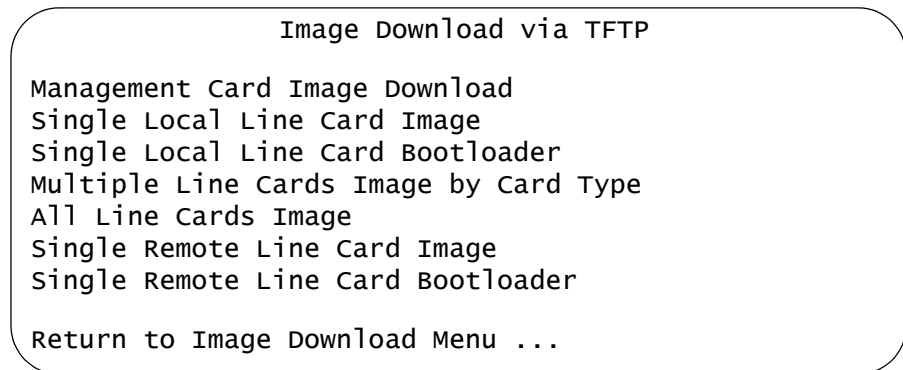

Figure 127. Image Download via TFTP Menu
2. Select **Image Download via TFTP**. This displays the menu in Figure 127.
2. Select **Image Download via XMODEM**. This displays the menu in Figure 127.